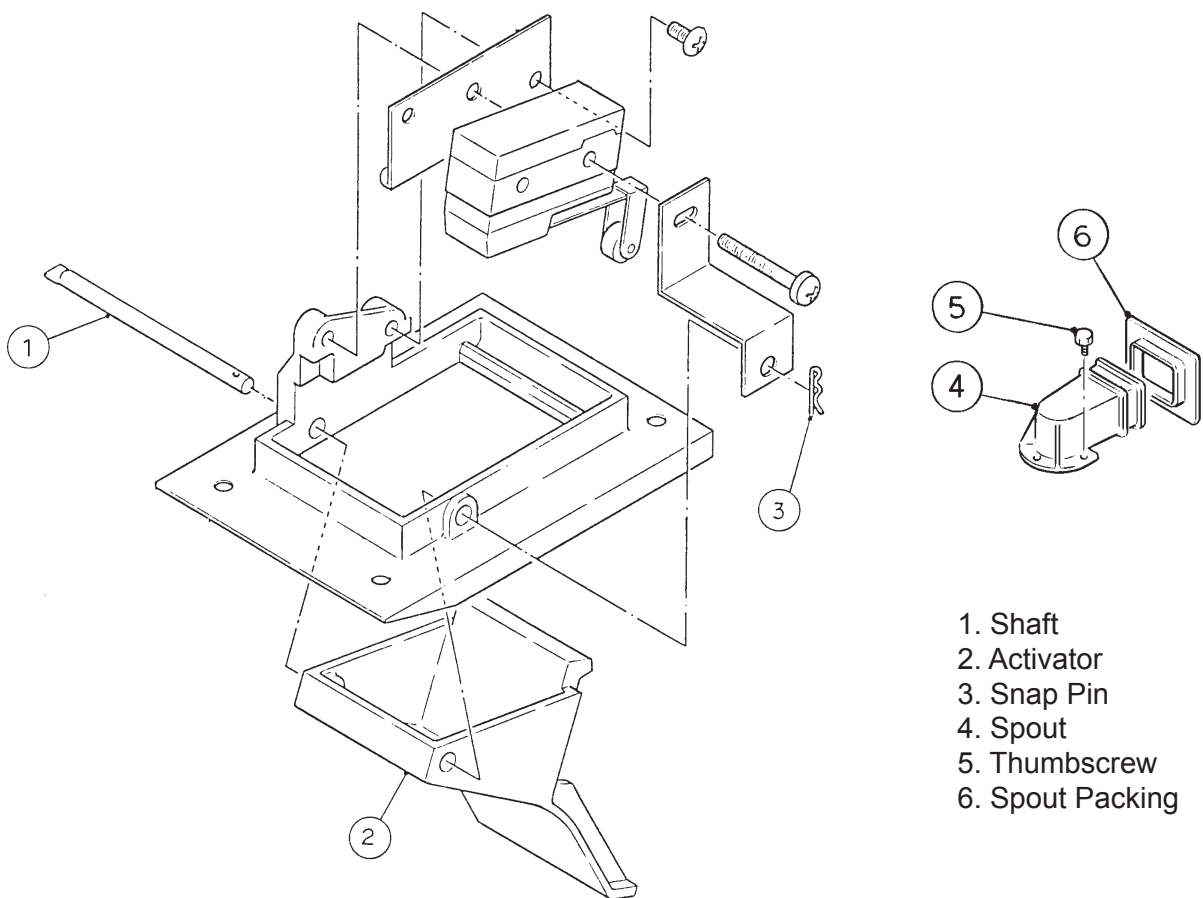

Fig. 11
24) Remove the Snap Pin, the Shaft and the Activator (See Fig. 11) from the Bin Control Assembly.
25) Remove the Thumbscrews, the Spout and the Spout Packing (See Fig. 11).